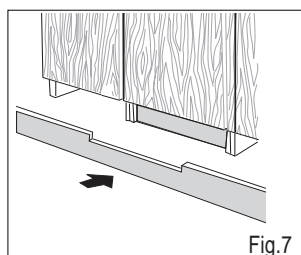

Fig.7
5. Install the base moulding again (see Fig.7).